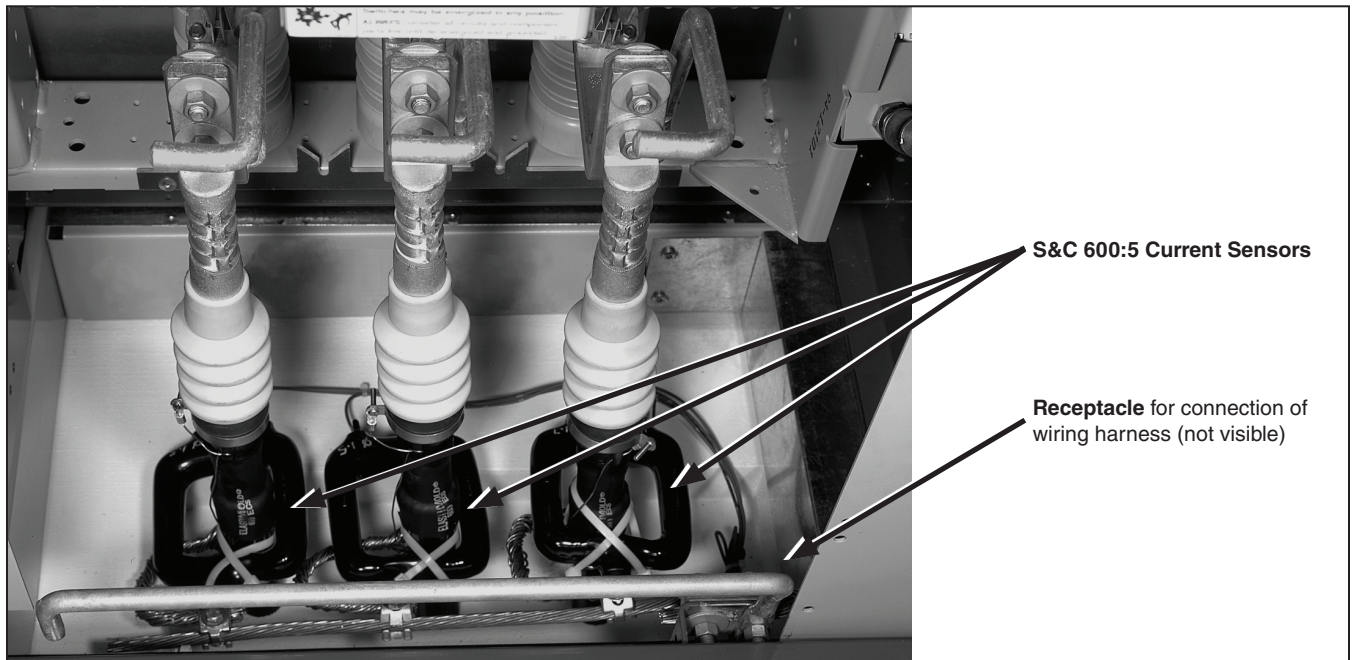
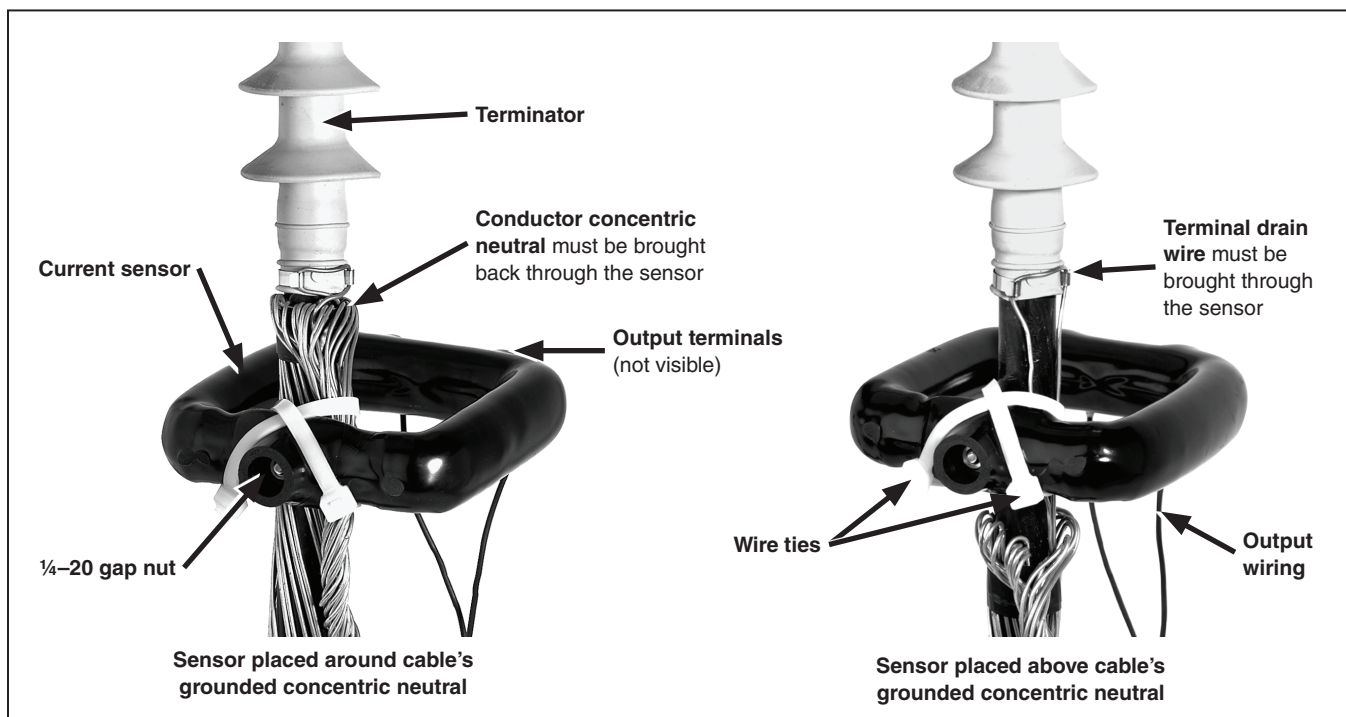

Figure 10. S&C 600:5 Current Sensor installation.
Figure 11. The S&C 600:5 Current Sensors can be placed around the cable concentric neutral (left) or above the cable concentric neutral (right).
- STEP 2.** Place each current sensor in front of the phase of the switch compartment on which it will be installed. Note the location of the receptacle on the galvanized-steel cover of the interconnecting-control-wiring base spacer. See Figure 10.
STEP 4. Remove the ¼–20 gap nut on one of the current sensors. Open the sensor and place it around the appropriate high-voltage cable. All three current sensors in a switch compartment must be installed with the polarity marks facing in the same direction—preferably up, so the magnitude ratio and phase-angle shift values are visible. Then, replace and tighten the gap nut. Refer to Figure 10 on page 21 and Figure 11.
STEP 5. Secure the current sensor to the high-voltage cable below the cable terminator or stress cone using the plastic tie wraps furnished. Refer to Figure 10 on page 21 and Figure 11. If the cable has a grounded concentric neutral, the current sensor must be secured in one of the following ways:
- It may be placed around the concentric neutral, in which case the concentric neutral must be brought back through the current sensor as shown in the left image in Figure 11.
- It may be placed above the concentric neutral, in which case the terminator drain wire must be brought through the sensor as shown in the right image in Figure 11.